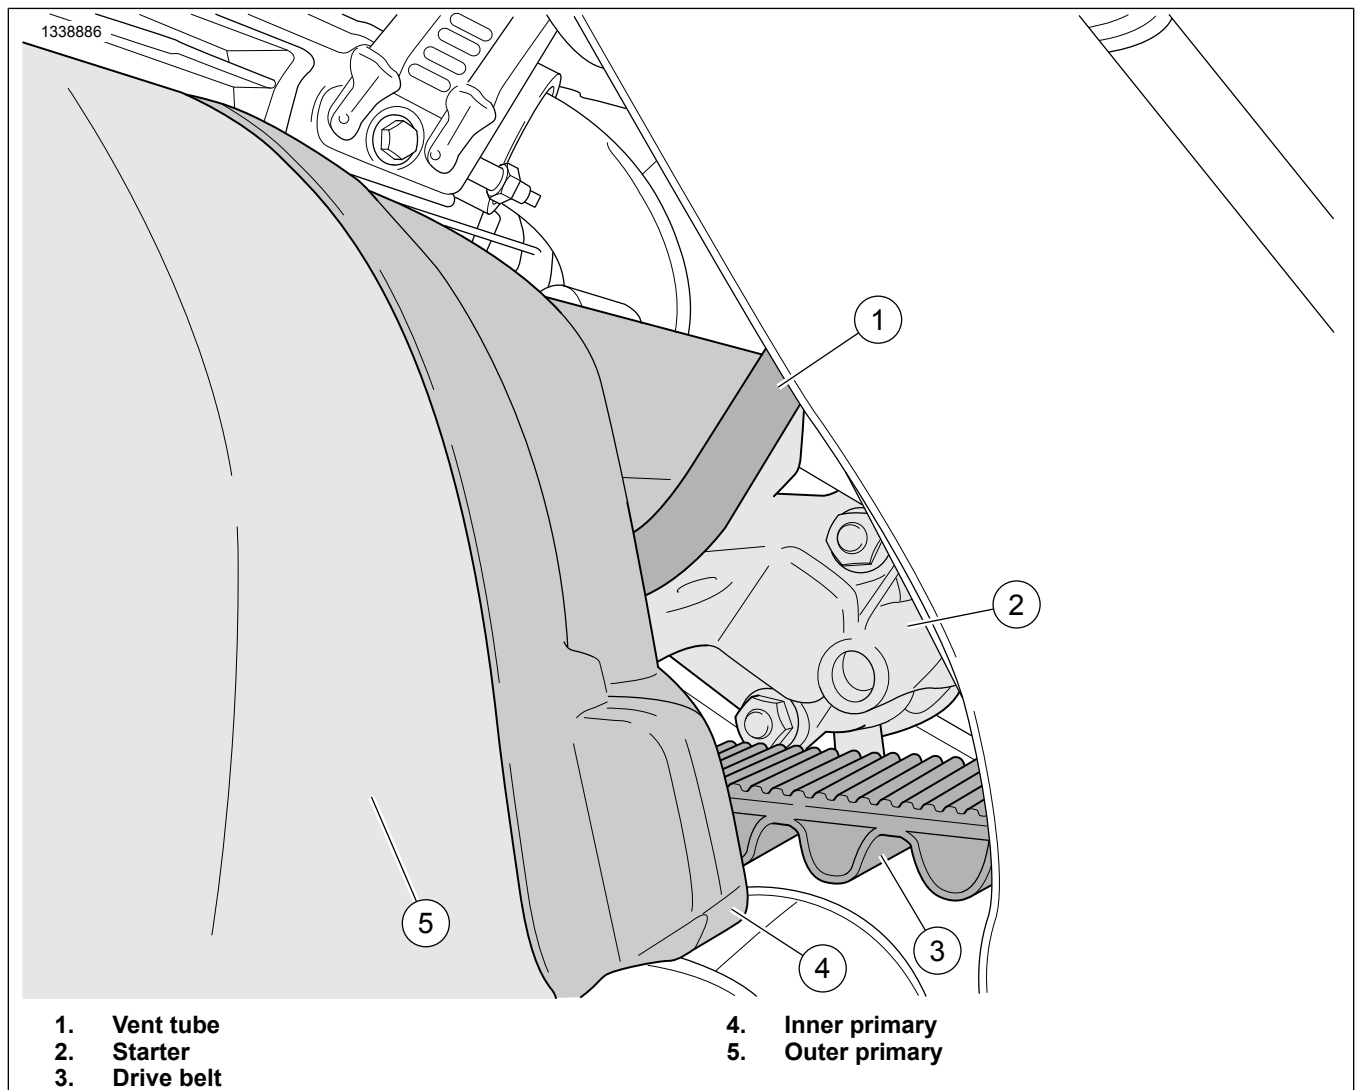

Figure 1. Inner Primary Vent Tube
1. See Figure 1. Check for vent tube (1).